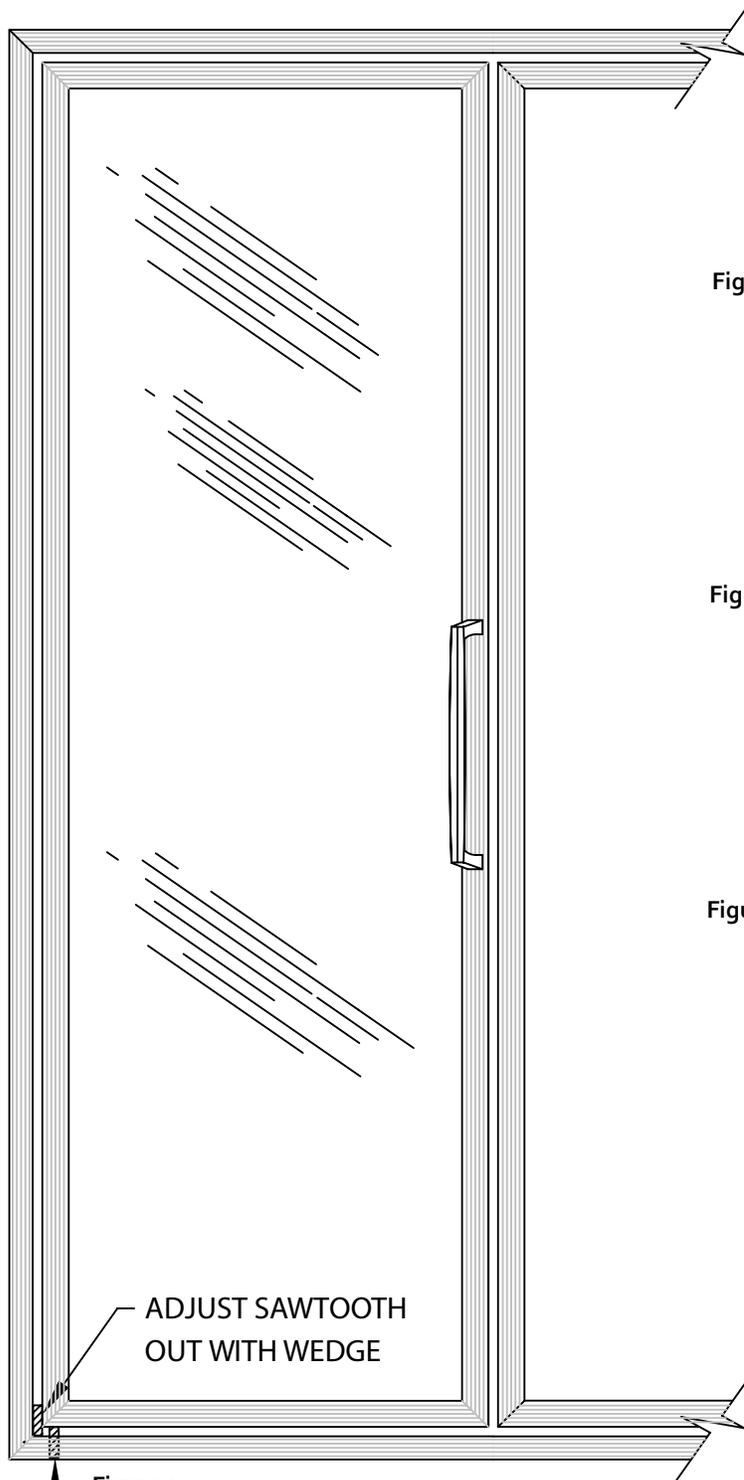

Figure 1
- Note any sawtooth on the door and adjust out with a wedge between the door and frame or between the door and the door next to it. **Figure 1**
- Mark the location of the hinge pin on the frame with a pencil. **Figure 1**